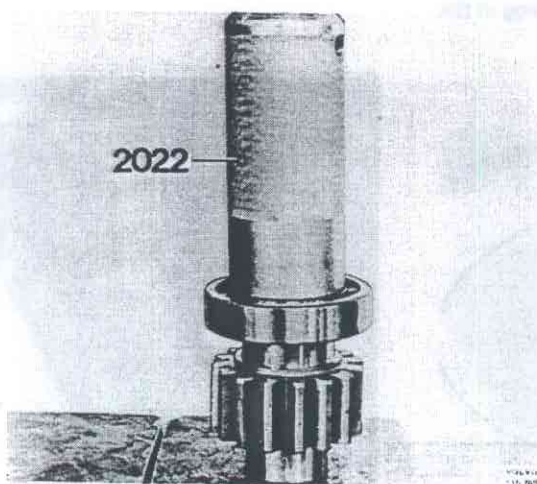

Fig. 46-124. Pressing on the bearing
1. Press the ball bearing on the gear wheel with 2022, Fig. 46-124. Fit the circlip.